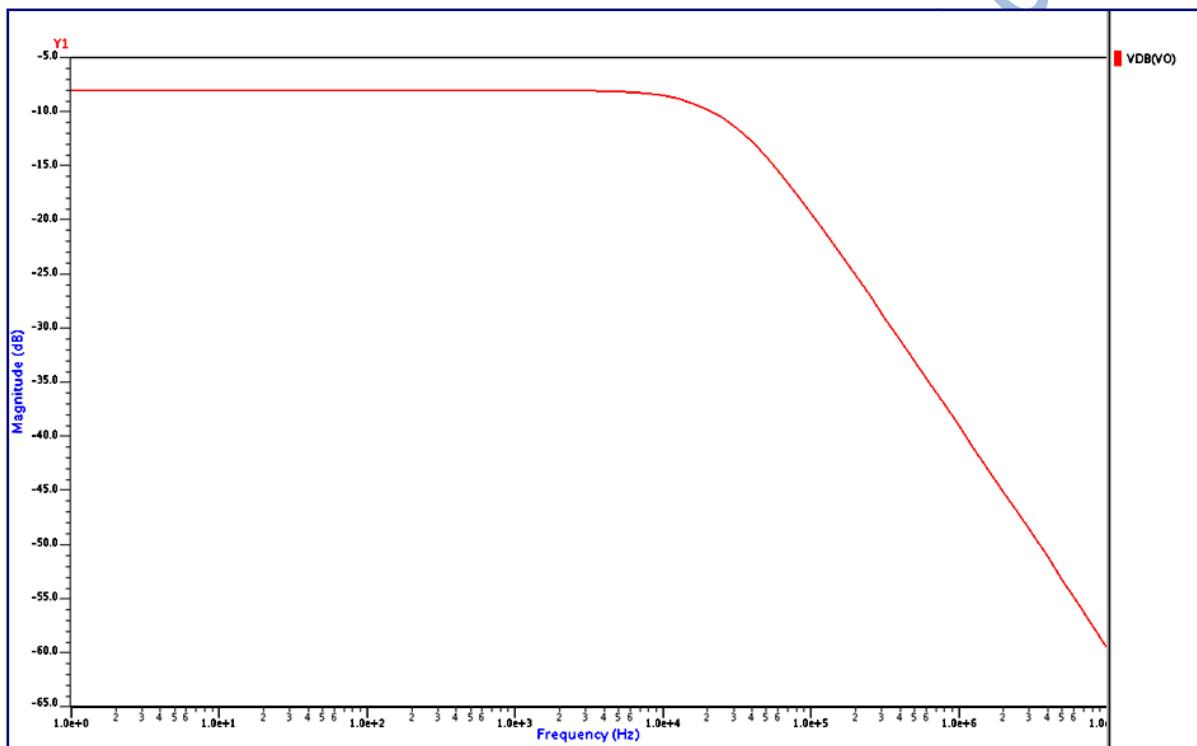
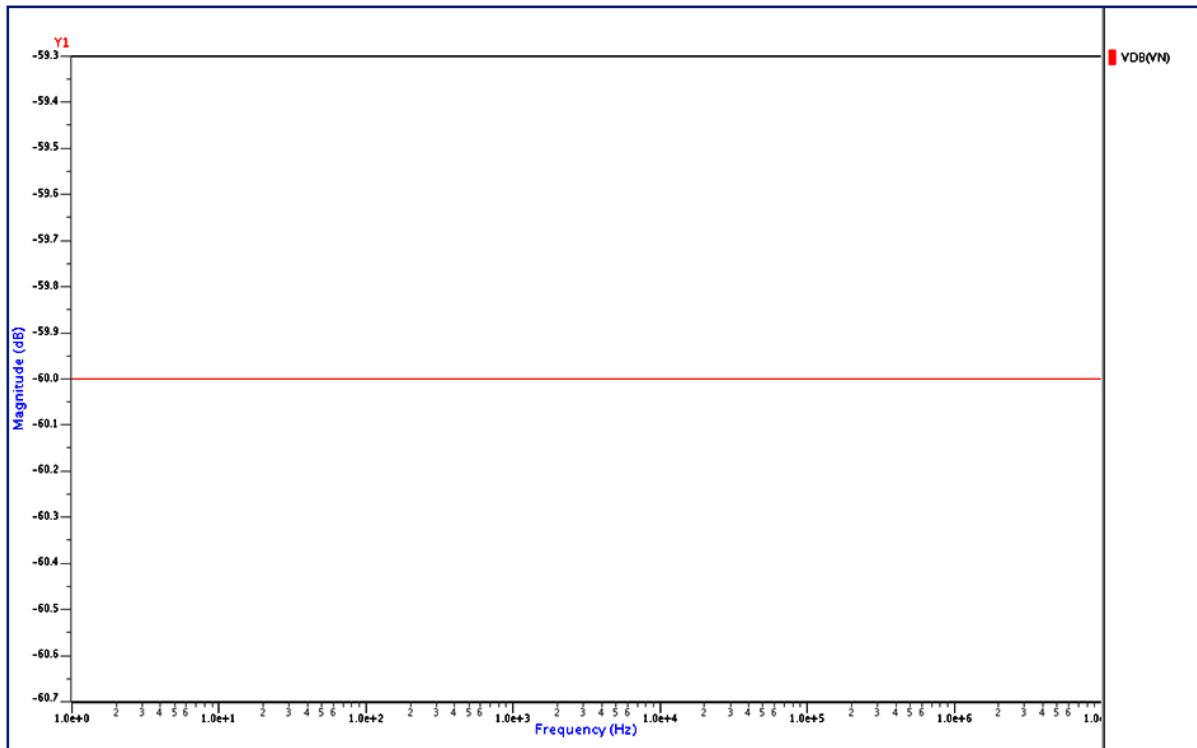
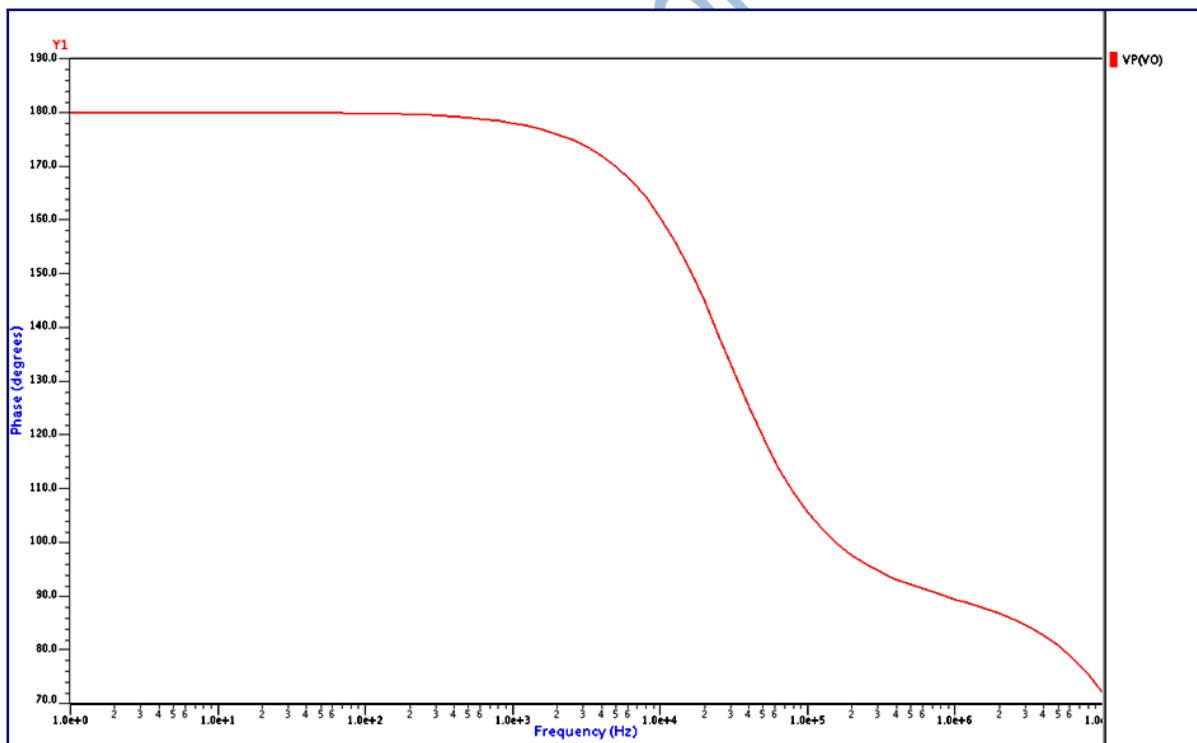

Figure 5: Simulation Waveform for VDB(VO)
Figure 6: Simulation Waveform for VDB(VN)
Figure 7: Simulation Waveform for VP(VO)
11. An EZwave viewer will pop-up. Next, drag the VDB(VO), VDB(VN), VP(VO) and VP(VN) into the Wave Window.
12. The simulation waveform will appear as shown in Figure 5, Figure 6, Figure 7 and Figure 8 respectively.
13. The simulation waveform is not finish yet because we want the VDB(VO) is minus with the VDB(VN) to get a gain waveform by using **Waveform Calculator**.
14. Same goes for VP(VO) and VP(VN) too. Minus VP(VO) with VP(VN) will get a phase waveform.